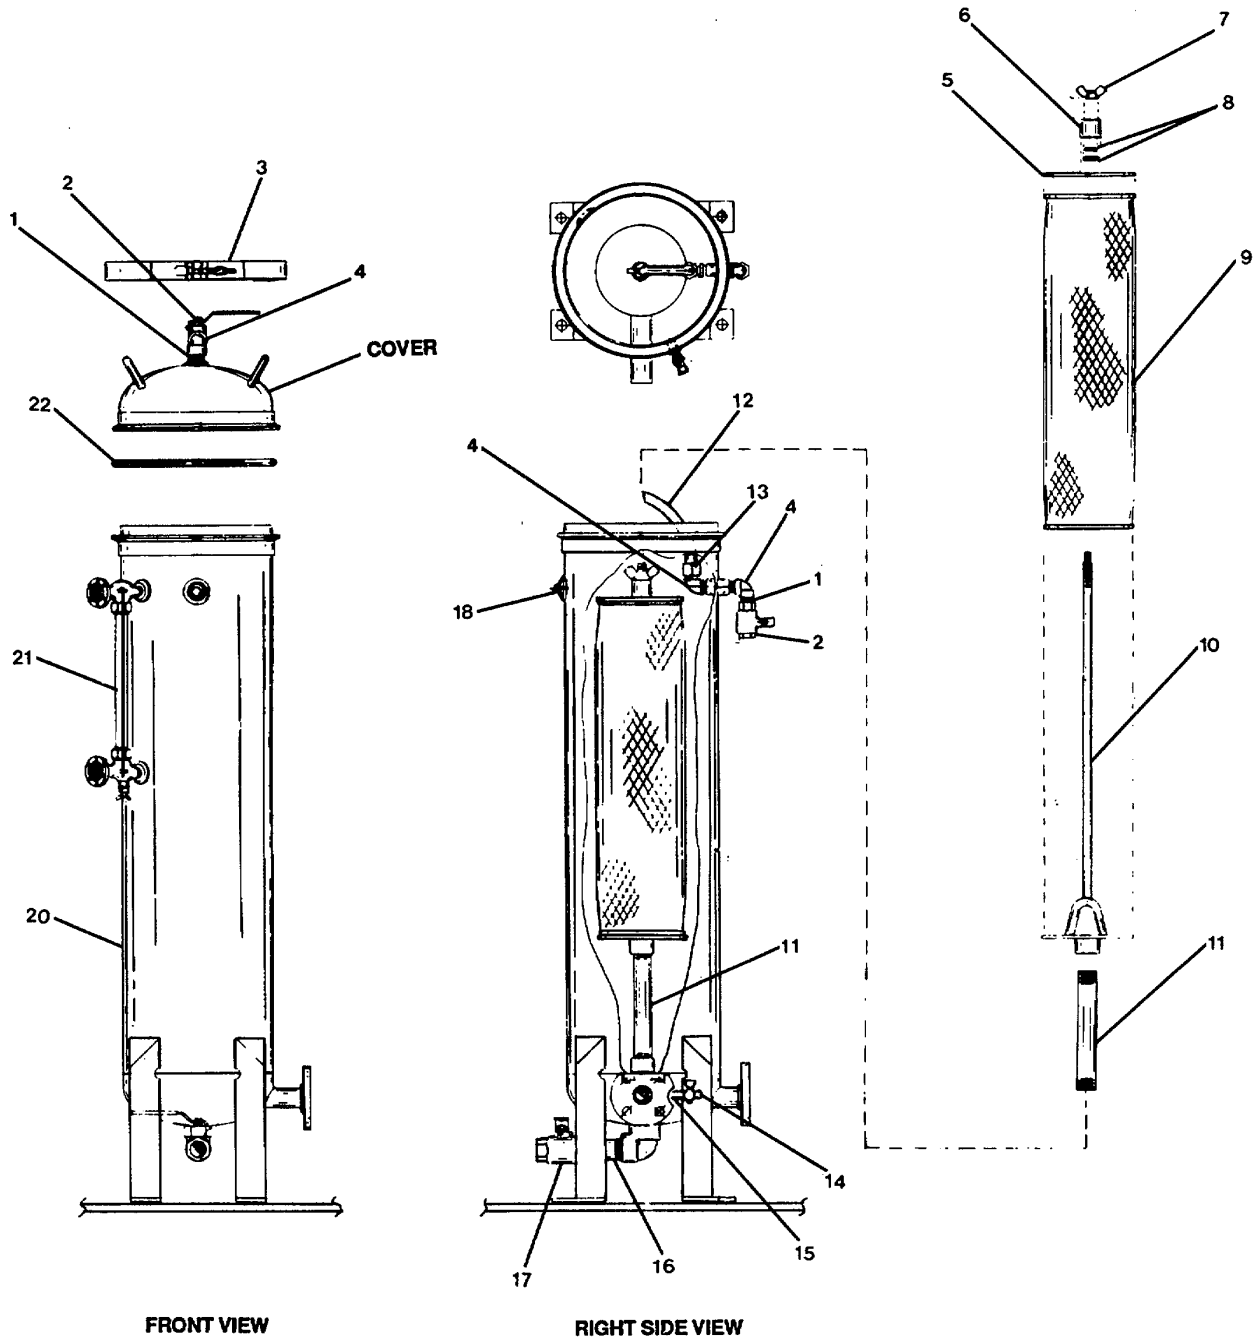

FIGURE 3-25. *Vessel Subassembly (Third Stage).*
**3-28. Repair Vessel Subassembly (Third Stage). (Figure 3-25)**